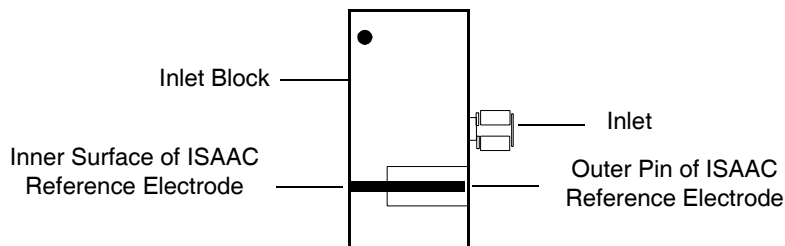

Figure 4-3 Locating the ISAAC Reference Electrode
3. Open the door, then remove and disassemble the flow cell (see Section 4.2, Disassembling the Flow Cell). Figure 4-3 shows the location of the ISAAC reference electrode on the inlet block of the flow cell. This half of the flow cell only has a single electrical connector.